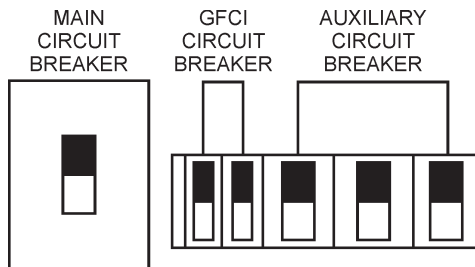

Figure 52. Main, Aux. and GFCI Circuit Breakers (ON)
13. Place the **main, GFCI, and aux.** circuit breakers in the **ON** position (Figure 52).